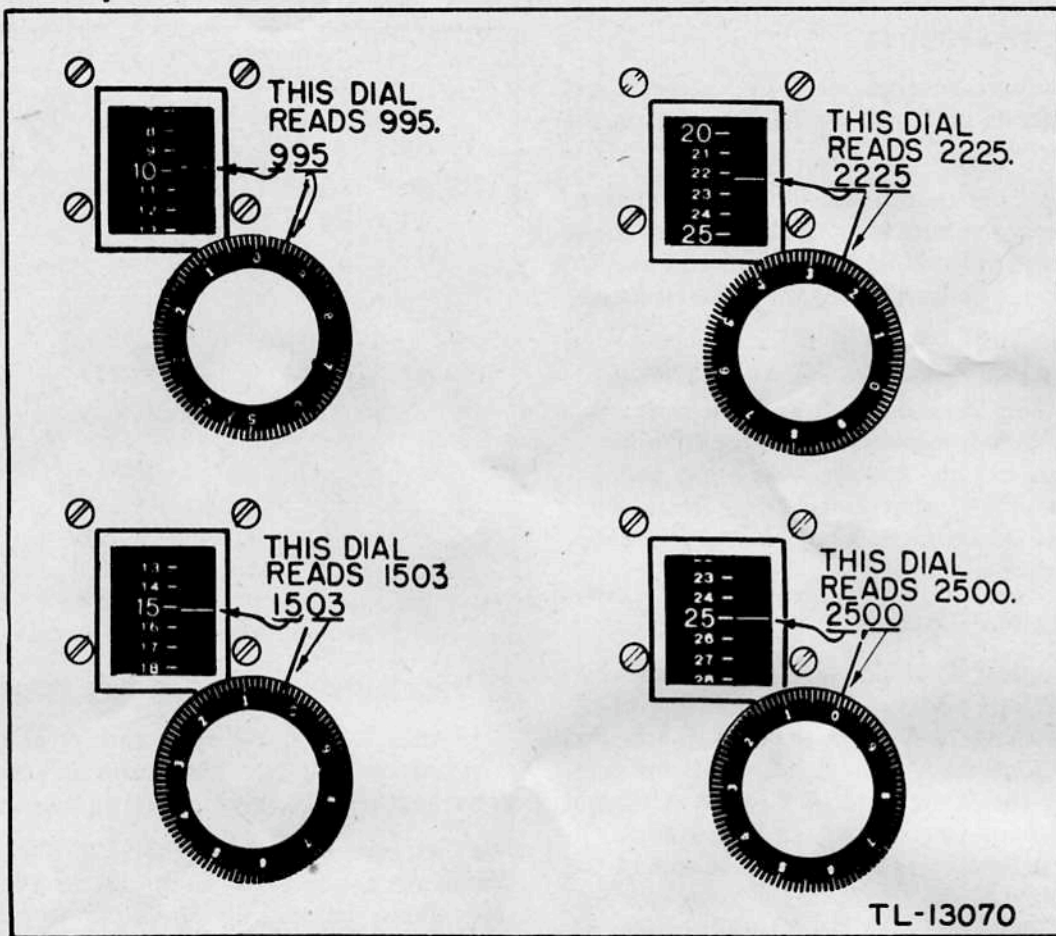

Figure 18. Transmitter dial readings.
29. TRANSMITTER DIAL READINGS. Dial settings for the transmitter are read from two dials. The drum dial behind the window reads thousands and hundreds, while the flat disc attached to the FREQUENCY CONTROL knob reads tens and units. Complete dial readings are the combined indications of both dials. Several views of different dial settings with the corresponding dial readings are given in figure 18. A calibration chart attached to the front of the transmitter furnishes exact dial settings for certain frequencies within the tuning range of the transmitter. To obtain unlisted dial settings, proceed as follows: